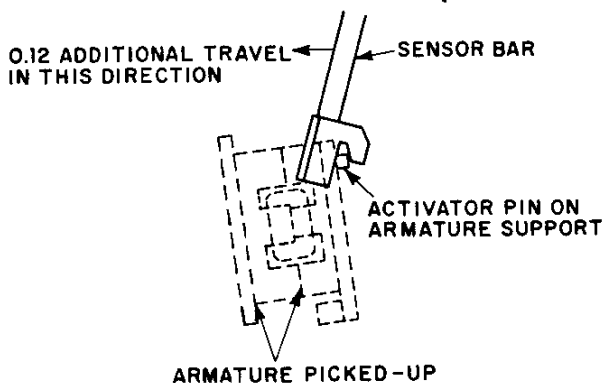

Fig. 40. Activator pin engaged in sensor bar with contactor energized
3. To assure "Free-closing" of armature in connection with sensor bar, a minimum of 0.12 inch of additional travel of sensor bar should exist when armature is fully picked up (see Fig. 40).